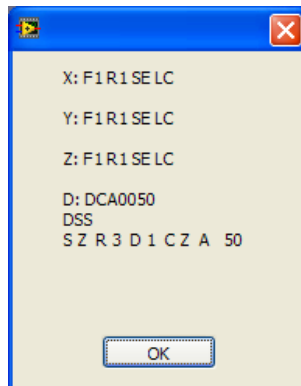

Figure 3. Communication Status Report.
3. Once authenticated, the Communication Status dialog box appraises the user of the status of the SQUIDs and degausser controller (*Figure 3*). If any of the information is blank, notify the paleomagnetism technician.
X, Y, and Z are the SQUID axes; SQUID responses shown in the example in *Figure 3* are as follows: